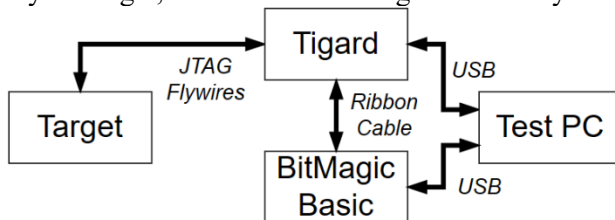

Figure 29: Block diagram for JTAG using Tigard with BitMagic Basic
5. Power off your target, then connect the Tigard JTAG flywires to the target. See Figure 29 for a block diagram.